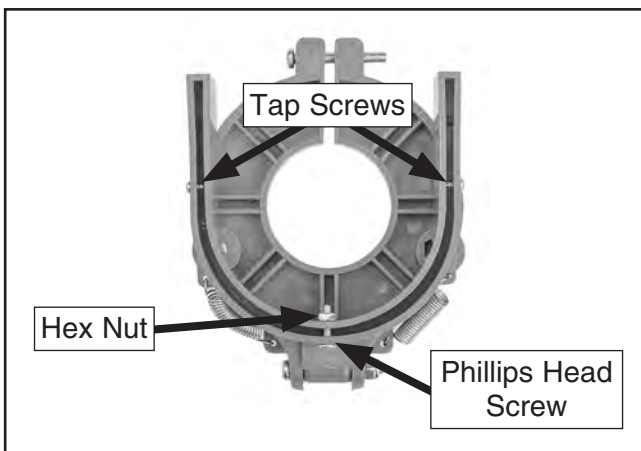

Figure 2. Location of chuck guard seat screws.
- Remove (2) pre-installed tap screws, Phillips head screw, and hex nut (see **Figure 2**) from chuck guard seat.